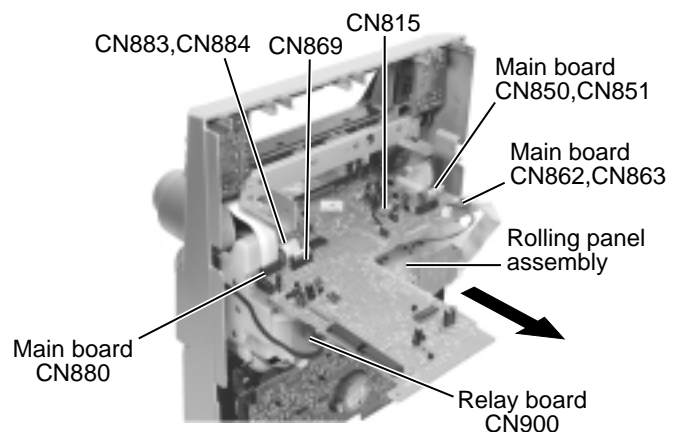

Fig.14
**ATTENTION:** For the harness which should be connected to connector CN869, CN883 and CN884 on the main board, get them through the slots under the rolling panel when reattaching the rolling panel assembly to the front panel (Refer to Fig.14)